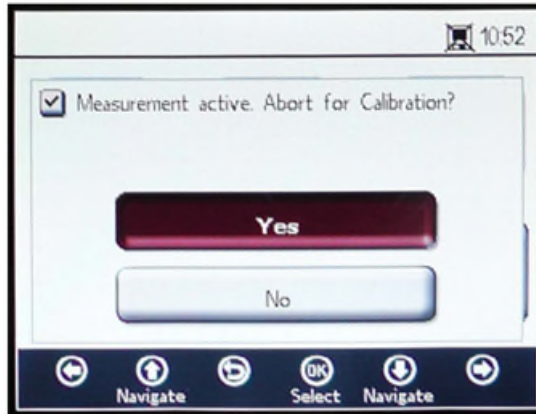

Figure 58. Message window - Stop measurements for calibration
2. Click **OK** to perform a Relative Accuracy Test Audit (RATA). This will open a message window with the question, "Measurement Active. Abort for calibration?" Refer to Figure 58.